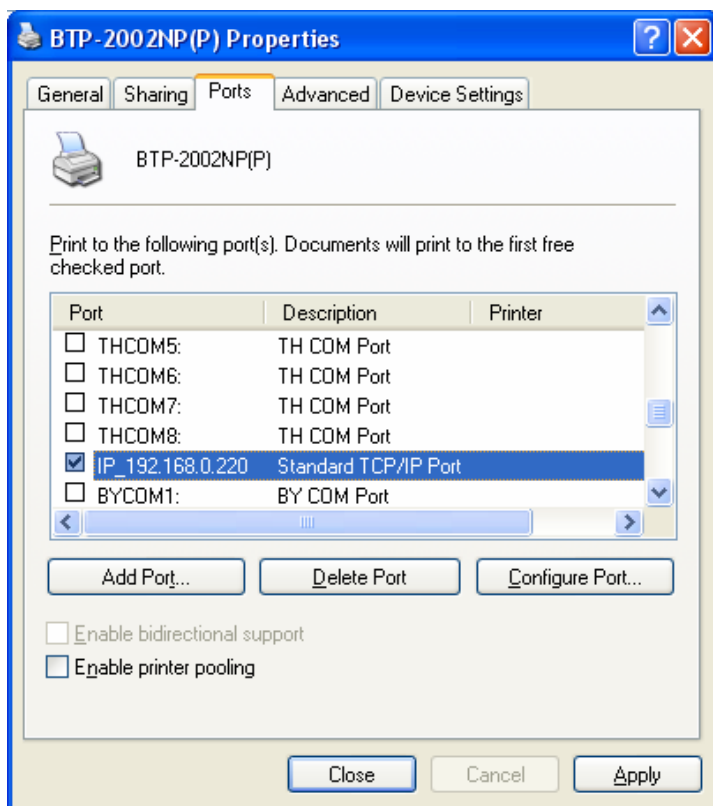

Figure 5.5.8
- 8) Select new TCP/IP Port and click “Apply” as shown in Figure 5.5.8, then “confirm”, and TCP/IP Port configuration is finished.